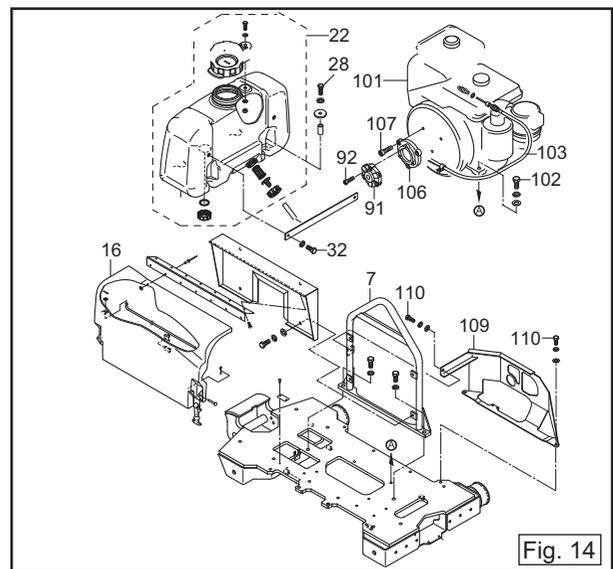

Fig. 14
3. Remove the bolts (x4) for the pump bracket, and pull out the variable pump AY from the center flex (91) that is fixed to the engine drive shaft. (Fig. 14, 15)
1. Remove the engine guard (109) and water tank (22). (Fig. 14)
3. Remove the speed throttle wire (103) and all electrical cables connected to the engine. (Fig. 14)
4. Remove the engine flange (106). (Fig. 14)
5. Remove the engine mounting bolts (102) (x4) and remove the engine with lifting hook equipped on the engine from the roller.